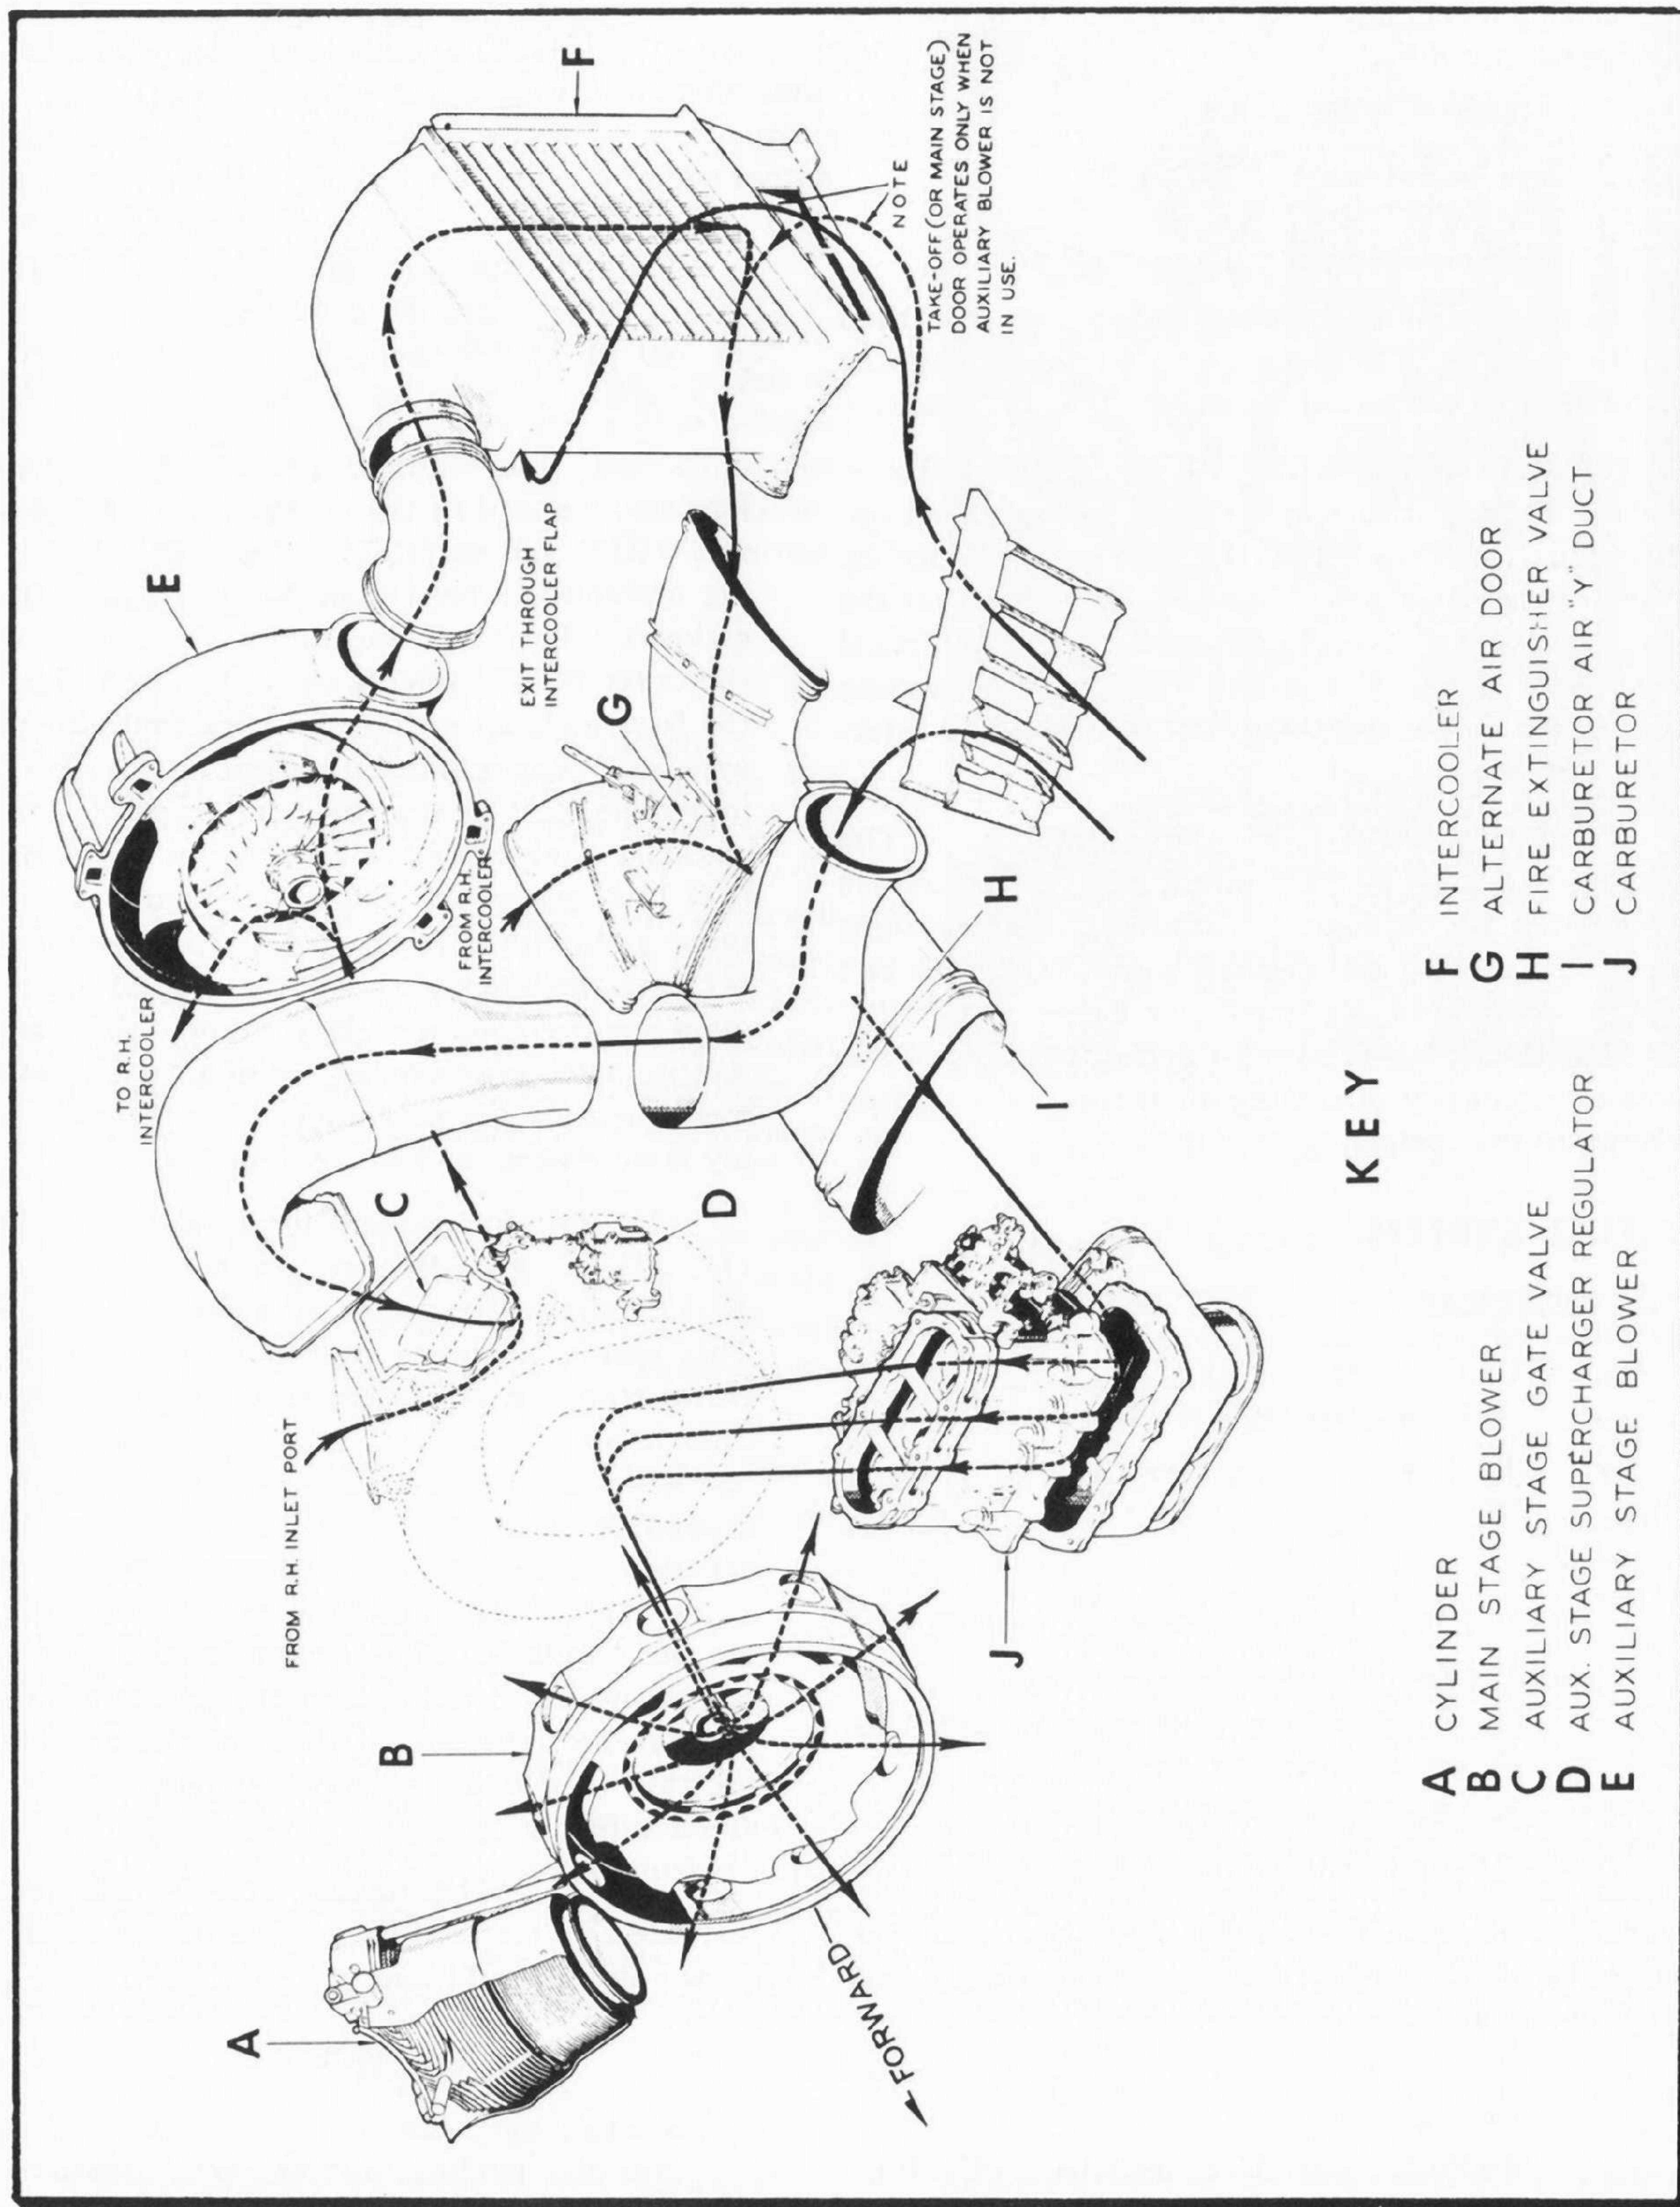

Fig. 9 — Induction System
(4) **SUPERCHARGER CONTROL.**—The two stage supercharger induction system installation is shown diagrammatically on figure 9. The main stage impeller is geared directly to the crankshaft, and the auxiliary stage impeller is driven through oil-operated clutches by means of which it can be disconnected from the crankshaft ("NEUTRAL") or engaged in either of two fixed gear ratios ("LOW" or "HIGH").